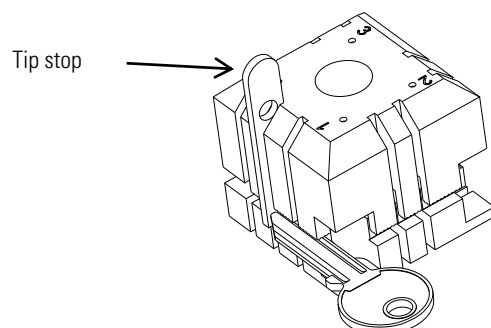

*Fig.14*
1. *Collar stop (C): This is the most common type. The key is stopped by mechanically blocking the clamp (Fig.14)*